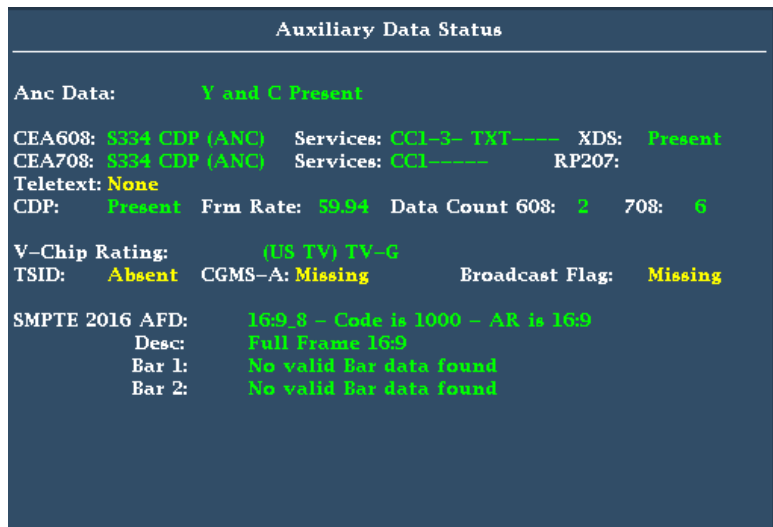

Figure 54: Auxiliary Data Status display
4. Select **Aux Data Status**. The Auxiliary Data Status display shows the status of the closed caption data. (See Figure 54.)
View the graticules in the Picture display. AFD information can viewed in the Auxiliary Data Status display. (See Figure 54 on page 123.)